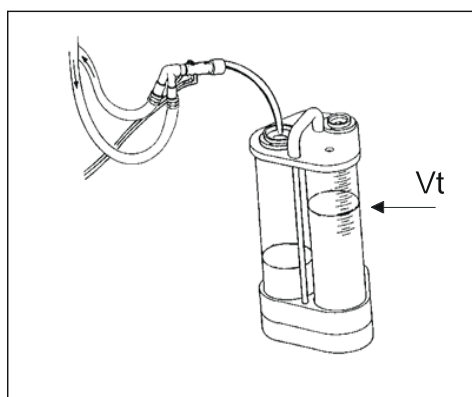

FIGURE 5-21
9. Read the Vt at the tester's highest water level and compare to the reading with the INSP Vt reading on the host monitor. If unit does not meet accuracy specification ($\pm 6\%$ of Vt), discontinue use and call for service (see FIGURE 5-21).